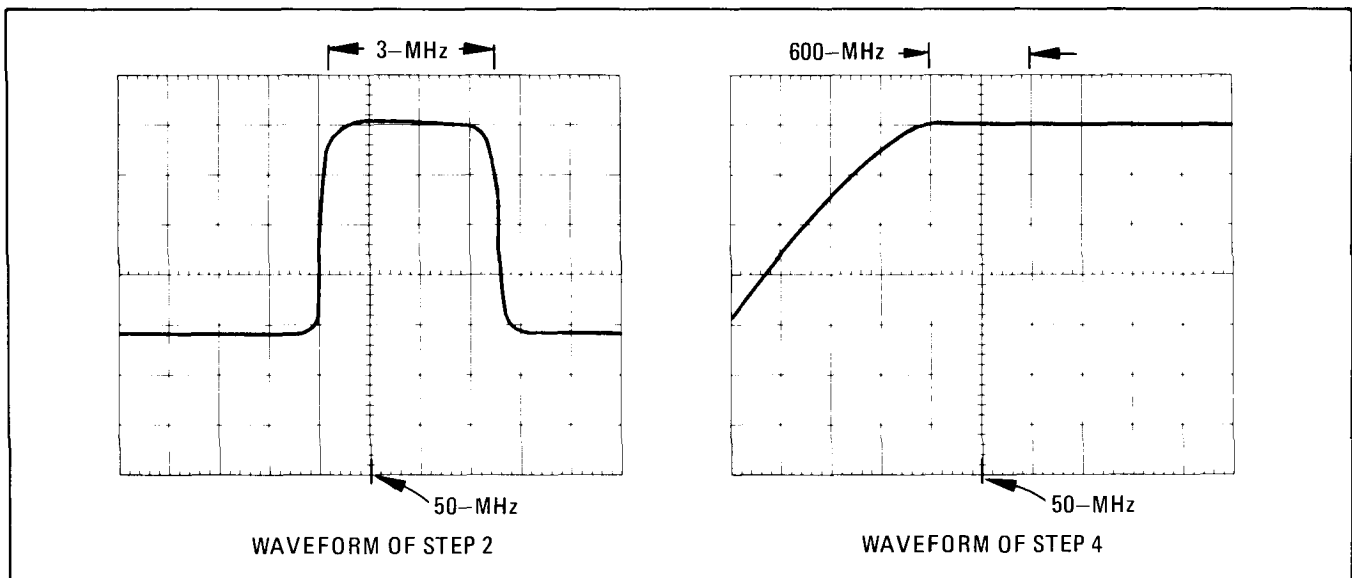

Figure 5-13. 50 MHz Bandpass Display for 10 MHz and 3 MHz Sweeps
2. Adjust Generator/Sweeper and oscilloscope to display a 10 MHz swept signal centered on 50 MHz. (See Figure 5-13.)
4. Select 3 MHz sweep width on the HP 8601A and observe oscilloscope display for a bandpass as shown in Figure 5-13. Repeat Step 3 as required to obtain desired bandpass.